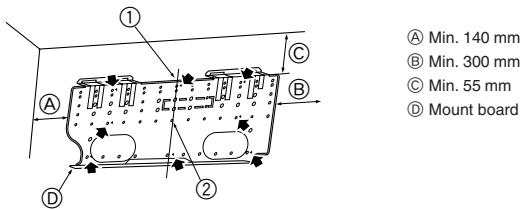

Fig. 3-3
3.1.3. Installing the wall mounting fixture (Fig. 3-3)